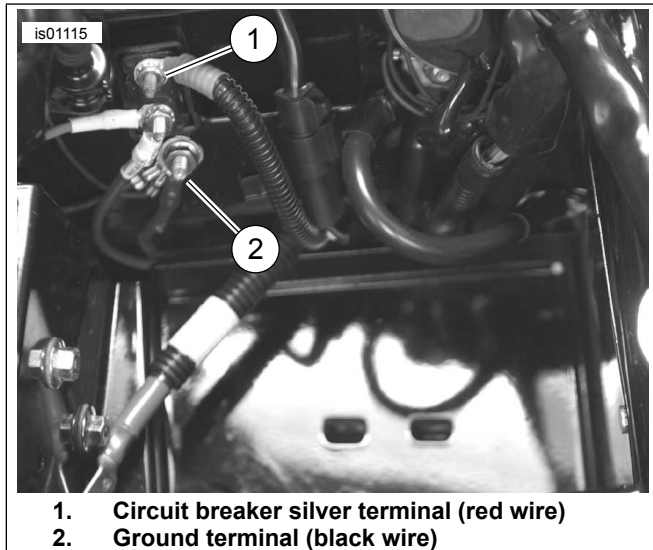

Figure 4. Connections (with battery removed) - 2003 or Earlier Touring Models (2003 FLHTCU shown)
3. See Figure 4. Cut the black wire on the Zumo wire harness to easily reach the ground stud (2) located below the circuit breaker in the battery well under the seat.